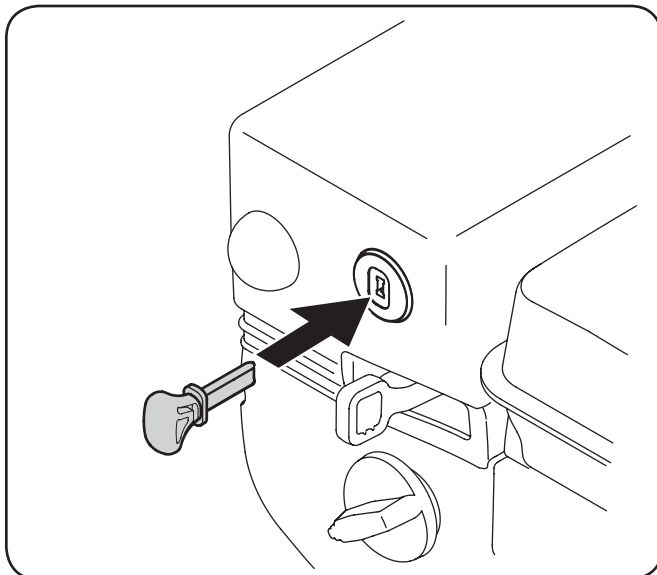

Figure 5-1
2. Insert ignition key fully into slot, Fig. 5-1. Make sure it snaps into place. DO NOT turn ignition key. The engine cannot start unless the key is inserted into ignition switch.
1. Insert ignition key fully into slot, Figure 5-1. Make sure it snaps into place. DO NOT turn ignition key. The engine cannot start unless the key is inserted into ignition switch.
4. Push primer three (3) times, making sure to cover vent hole when pushing. If engine is warm, push primer only once. Always cover vent hole when pushing. Cool weather may require priming to be repeated.